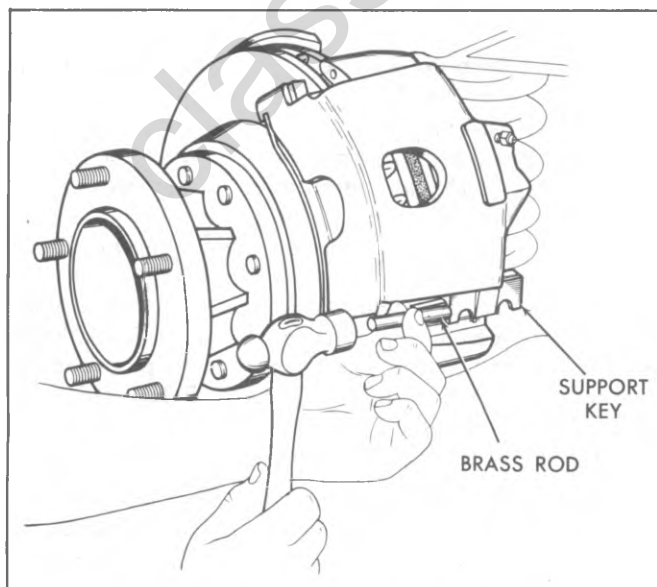

Fig. 5-33--Removing the Caliper Support Key
4. Remove the bolt at the caliper support key. Using a brass punch, remove the key and spring (fig. 5-33).